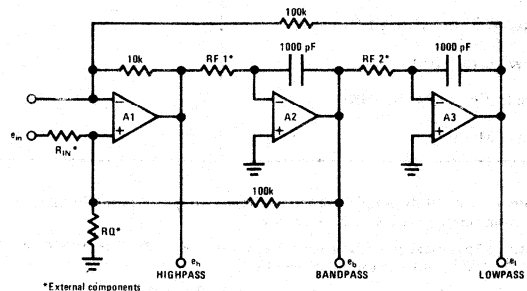

FIGURE 2. Non-inverting Input ( $Q > Q_{MIN}$ , See Q Tuning Section)
The specific transfer functions for some of the most useful circuit configurations using the AF100 are illustrated in *Figures 2 through 8*. Also included are the gain equations for each transfer function in the frequency band of interest, the Q equation, center frequency equation and the Q determining resistor equation.
a) Non-inverting input (Figure 2) transfer equations are: